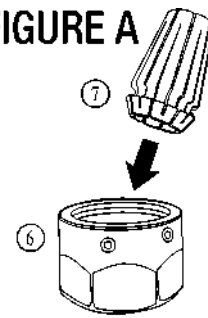

FIGURE A-1
2. To install the desired ⑦ ⑧ ⑨ Collet, insert the Collet into the threaded opening with the flanged end first. Apply firm pressure to the base of the Collet until it snaps in place. You may need to insert it at a slight angle. **FIGURE A.**
3. To remove the Collet from the Collet Nut, press the base of the Collet while pushing the collet from the exposed end until it snaps out of the socket. **FIGURE A-1.**